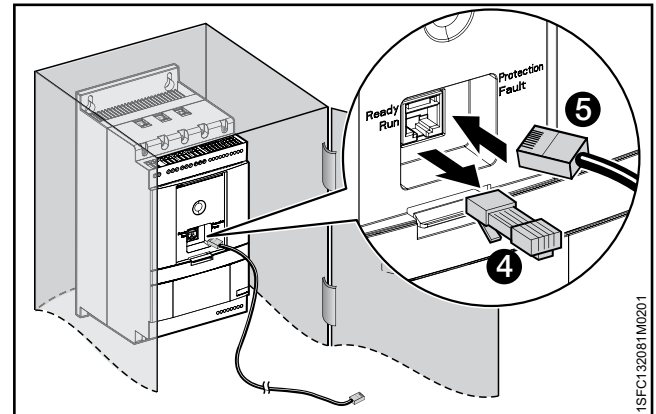

Figure 4.10
3. Remove the RJ45 plug see **4**. Connect one end of the network cable to the network port on the front of the softstarter **5** in **Figure 4.10**.